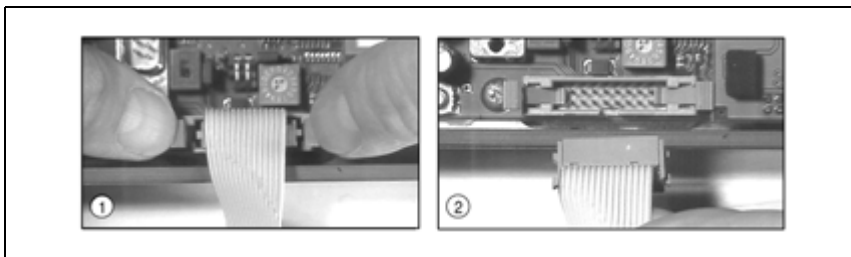

Figure 6.10: Disconnecting the ribbon cable inside the MA 10
The two halves of the housing are now connected to each other only by the ribbon cable. You can now disconnect the ribbon cable from the electronic circuit board for better access, as shown in figure 6.10.
- ✚ To disconnect the ribbon cable, carefully press down the two latches of the ribbon cable plug at the same time, as shown in figure 6.10 of ①.
The cable is now free (② in figure 6.10) and the half with the electronics and the connection terminal can be removed for unhindered connection.